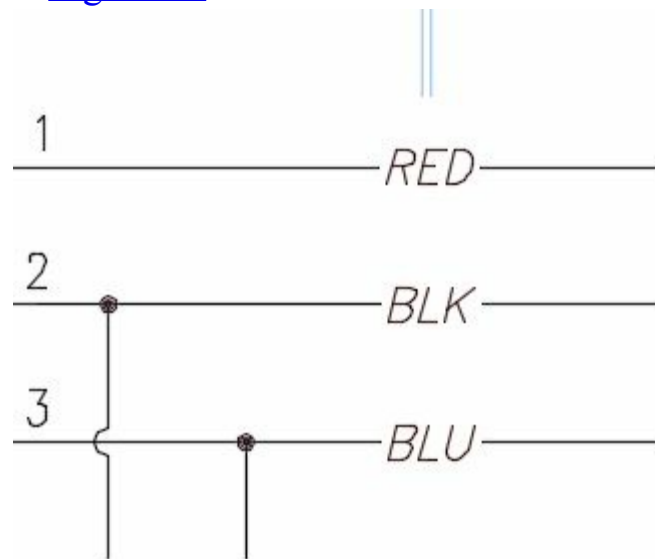

Figure-30. Entities after alignment
- Click on the entities that you want to align and press **ENTER**. The entities will be aligned; refer to Figure-30.